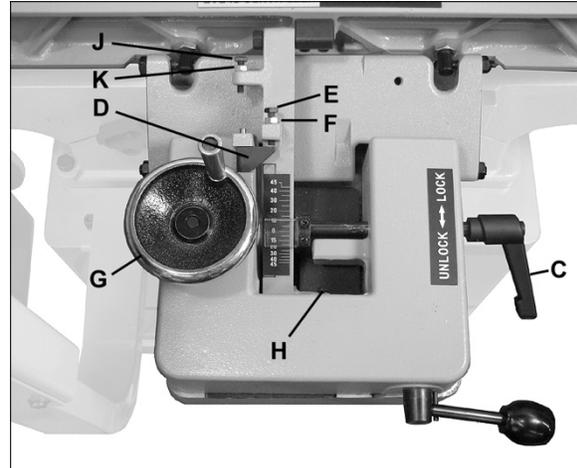

Figure 29
See Figure 29.
1. The 90-degree stop is controlled by the screw (E, Figure 29).
2. Loosen the locking handle (C) and the hex nut on the screw (F).
3. Set a square on the table and against the fence and rotate the handwheel (G) to move the fence flush against the square. Rotate the screw (E) until it contacts the stop block (D).
4. Tighten the hex nut (F) and the locking handle (C).
1. The 45-degree forward stop is controlled by a screw (H, Figure 29) that is located at the bottom end of the link bar.
2. Loosen the locking handle (C) and the hex nut on the screw (H).
4. Rotate the screw (H) until it contacts the casting below it.
5. Tighten hex nut (H) and locking handle (C).
1. Flip the stop block (D, Figure 29) out of the way.
2. The 45-degree back stop is controlled by the screw (J).
3. Loosen the locking handle (C) and the hex nut on the screw (K).
5. Rotate the screw (J) to the proper height.
6. Tighten hex nut (K) and locking handle (C).